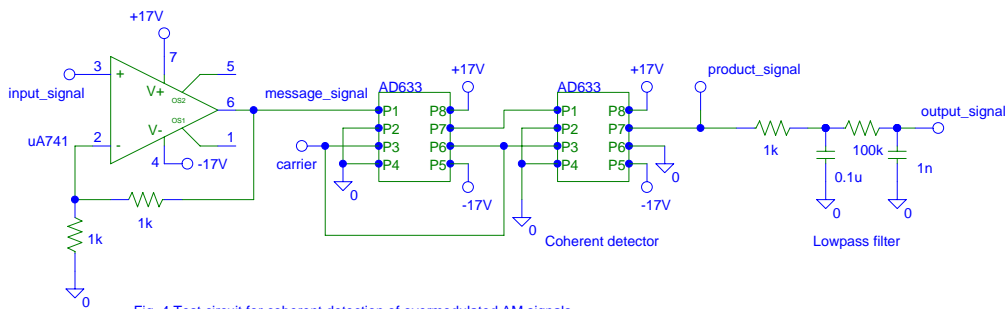

Fig. 4 Test circuit for coherent detection of overmodulated AM signals.
- Simulate the output signal of the coherent detector of Fig. 4 (neglect the op-amp amplifier). The parameters for the *message* signal are: Sine wave, $A_x = 13$ V, $f_x = 500$ Hz, and for the carrier signal: Sine wave, $A_c = 5$ V, $f_c = 18$ kHz, $TS = 4$ ms [4].
1. With the power supply off, assemble the circuit of Fig. 4. Use FG1 as the input signal and FG2 as the carrier signal. Set the following parameters in FG1: Amplitude=6.5 V, Frequency=500 Hz, sine wave. For FG2: Amplitude=5 V, Frequency=18 kHz, sine wave. Use the channel 1 probe of the oscilloscope to observe the product signal and the channel 2 probe to observe the output signal.
3. Comparing the time signals in plots P3 and P4, and giving arguments *from* their spectra, (a) explain why the signal of P4 shows less ripple. [2]. (b) Would you connect the LPF of Fig. 4 to the output of the envelope detector in order to remove the ripple in the case of P3? Justify your answer. [2].